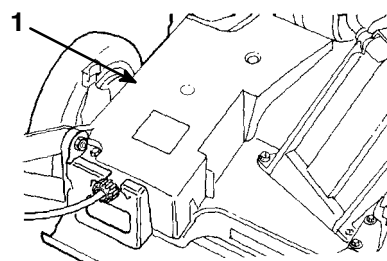

Figure 34
2. Remove the bolts that secure the belt cover (Fig. 34) to the lawn mower housing.